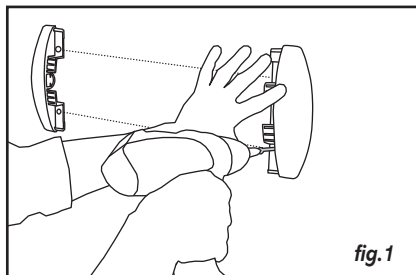

fig.1
■ Place the end-pieces and any internal/external angle pieces over these lines, check that they are vertical with respect to the floor, and mark their pre-drilled hole positions on the wall (fig.1).
■ Drill the wall, fit the screw-plugs and then mount the end-pieces and angle pieces on the wall (fig.1).